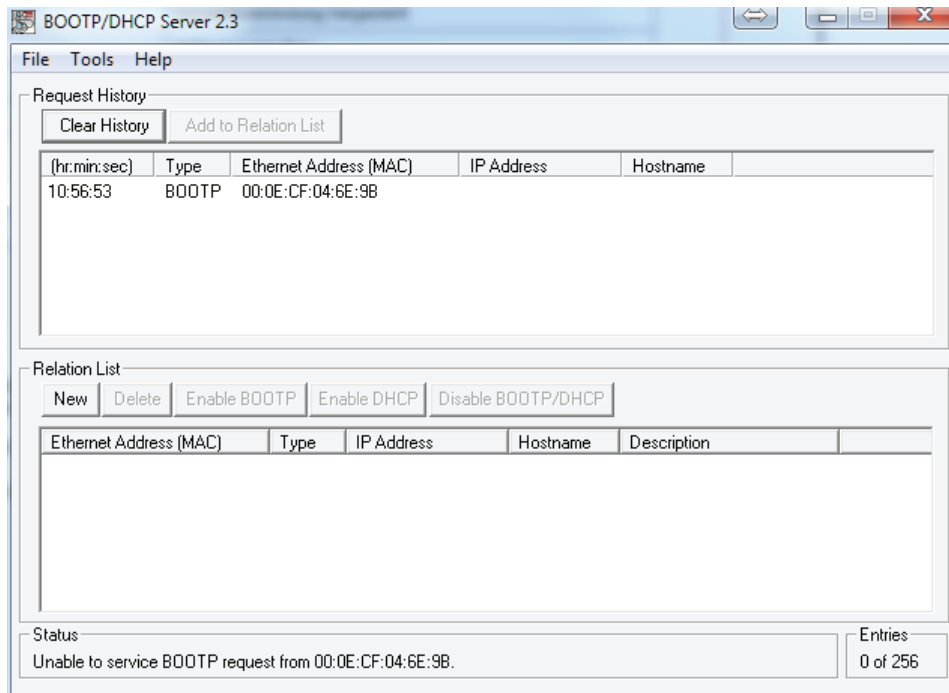

Fig.: 2
- The rotary encoder then transmits BOOTP messages (see Fig. 2).